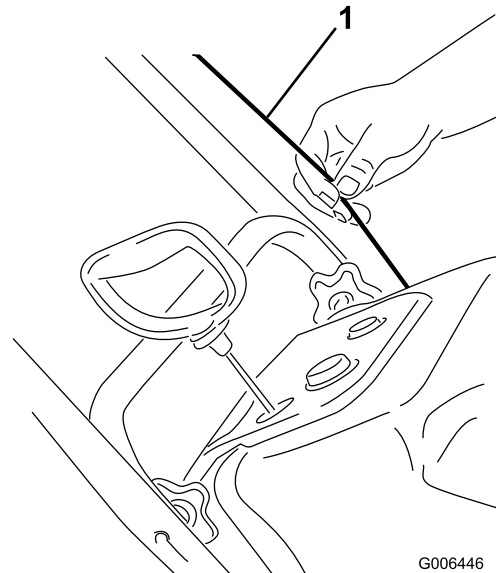

Figure 5
**Important:** Ensure that you do not pinch or kink the control cable (Figure 5).